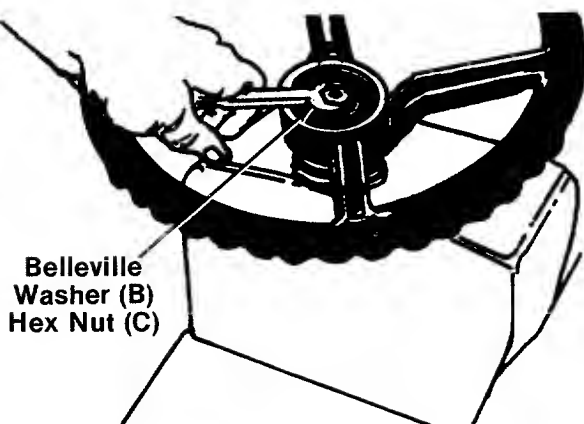

FIGURE 12.
4. Secure with belleville washer (B) (cupped side against the steering wheel) and hex nut (C). See figure 12.
5. Press the steering wheel cap (A) on the steering wheel by hand.